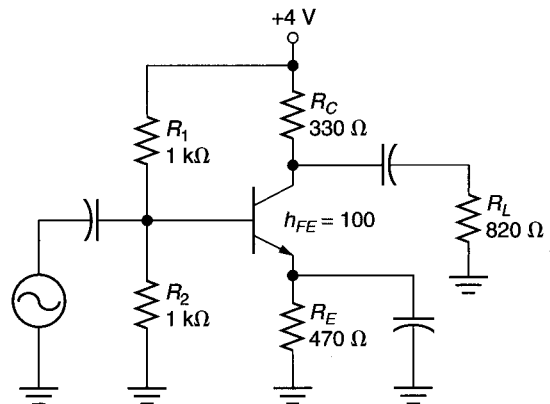

FIGURE 11.49
4. Calculate the compliance of the amplifier in Figure 11.49. Determine the type of clipping that the circuit would be most likely to experience.
14. Determine the values of  $P_S$ ,  $P_L$ , and efficiency for the amplifier in Figure 11.49. Assume that the circuit is driven to compliance.
40. Calculate the value of  $P_D$  for the transistor in Figure 11.49.